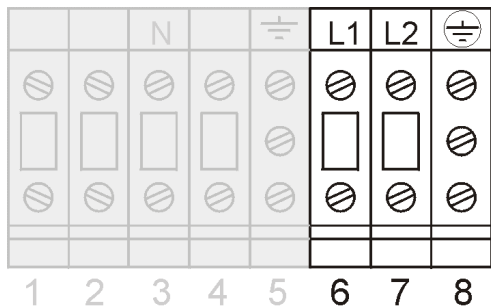

Figure 9. LP 5/6/8/10-11U:
3. Connect the utility supply wires to terminals 6 (L1), 7 (L2) and 8 (equipment grounding conductor). See figure 9. Ground connection is essential!